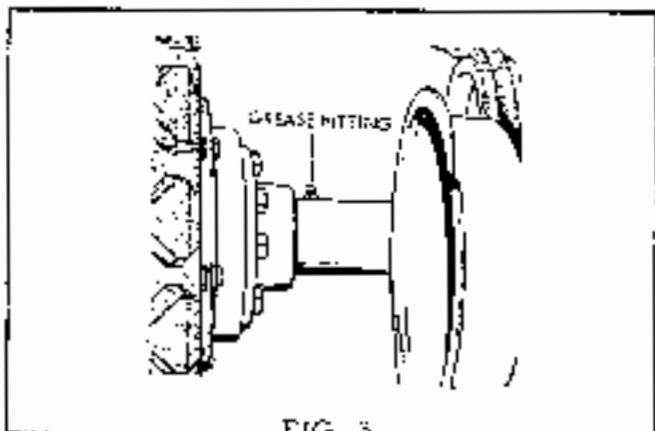

FIG. 3
- (1) Rear Axle Tube - (Fig. 3)